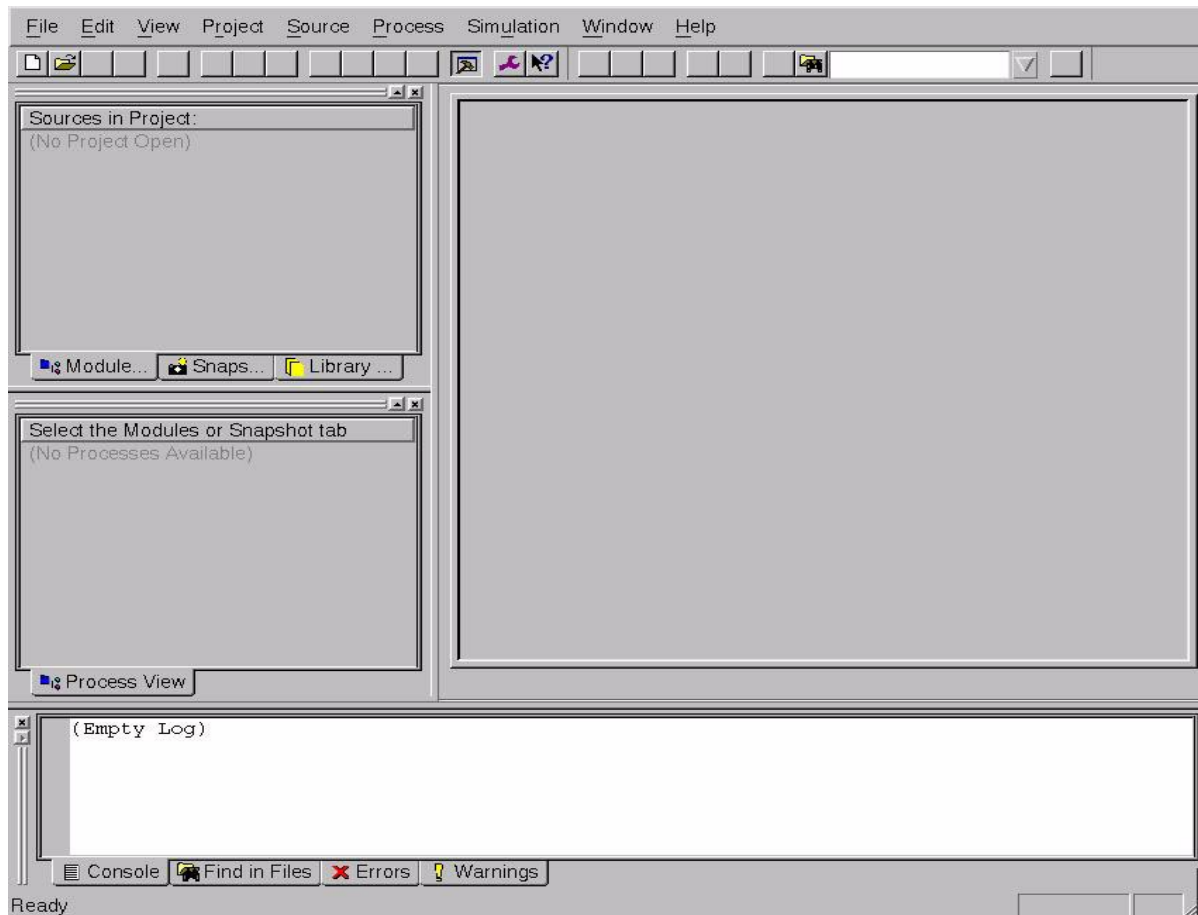

Figure 21: Xilinx Project Navigator window.
(3) The **Xilinx Project Navigator** window will appear as shown in Figure 21. A Tip of the Day window will also appear, select OK in it to close the Tip of the Day.